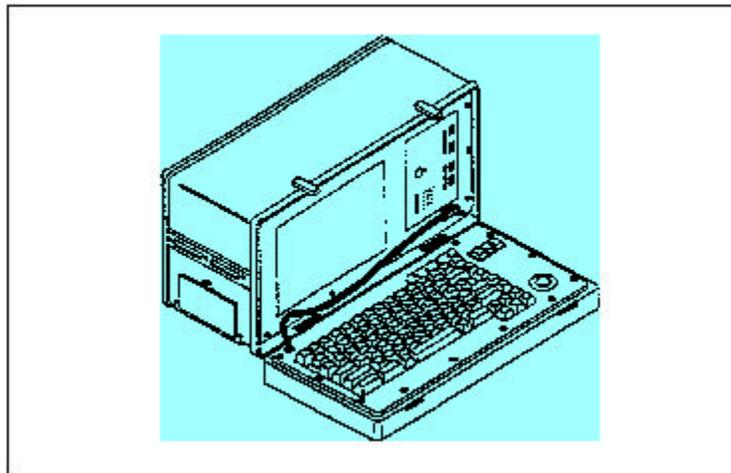
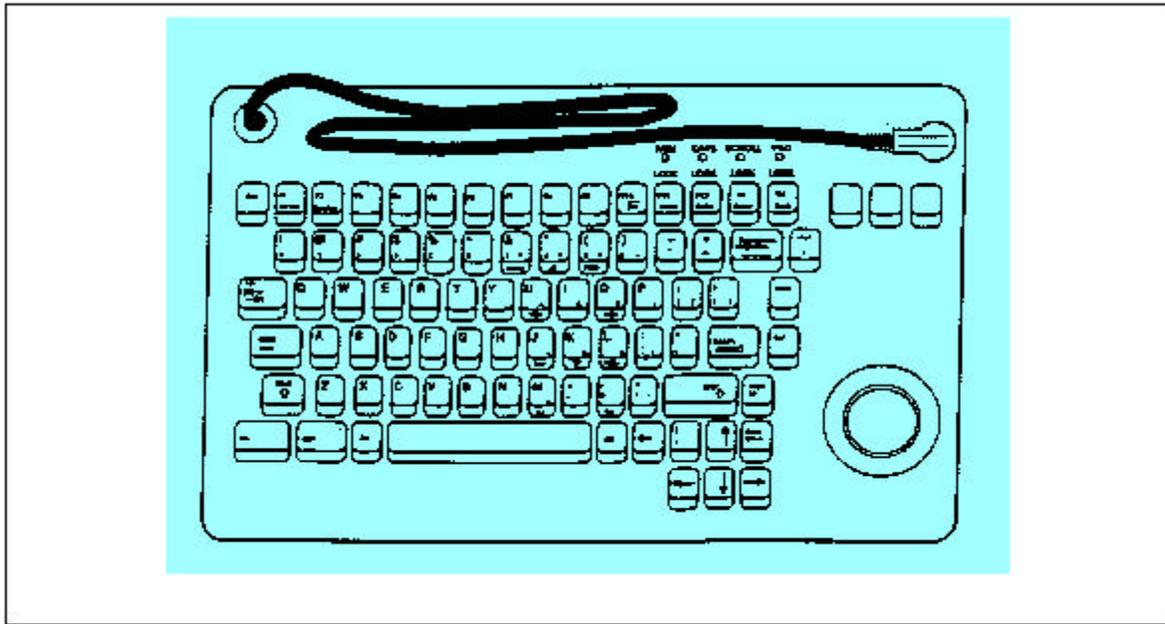

Figure 1: V2-LC Computer with Keyboard
Figure 3: Keyboard with Mouse
1. The V2 LC computer features a detachable keyboard front cover assembly that contains an alphanumeric American Standard 82 key keyboard with arrow keys, and a trackball pointing device with three buttons (See Fig 1). The keyboard supports AT compatible 101 key keyboard functions. Key combinations are required to emulate some of the functions of a 101 key keyboard. Keyboard functions may change, depending on the software program. Check your software documentation for specific key functions. (See Fig 3).